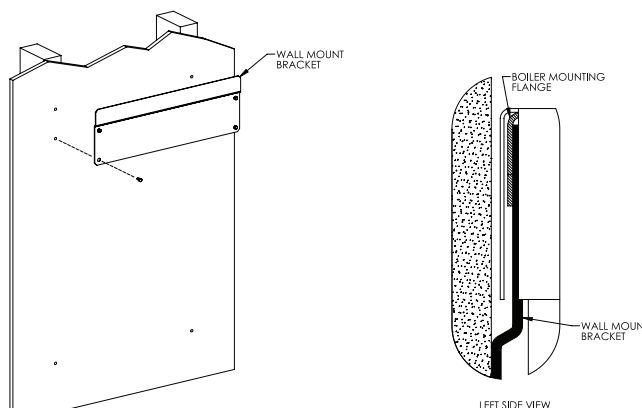

Figure 2.1: Wall Mounting Bracket
3. The mounting bracket has (4) holes on 16" centers as shown in Figure 2.1. This is intended to give installers the ability to mount the bracket on two wall studs spaced at this interval. If existing wall studs are spaced differently or if the desired location is not in line with the wall studs additional support is required.